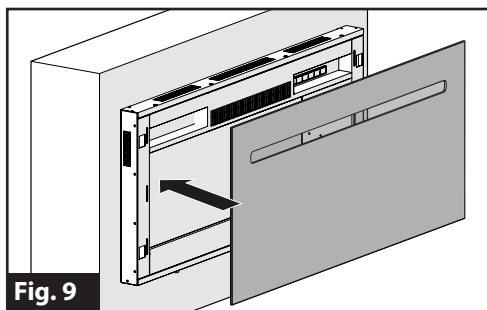

Fig. 9
6. Align the six tabs on back of the glass cover with the slots on the fireplace and reattach the glass cover to the fireplace. (Fig. 9)